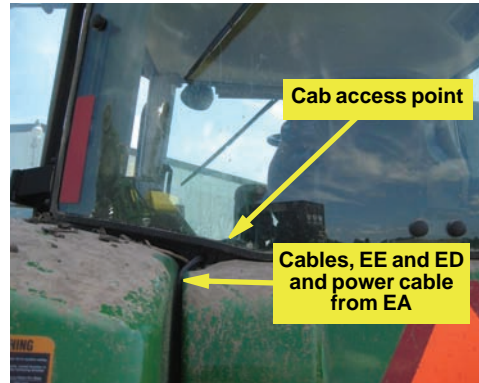

Figure 2b: Cables out from cab
- c. Connect cables **EE** and **ED** to their respective connectors on controller cable **EC** (WAS and PVE). Route the cables, with the power cable from **EA**, out the back window and down to the left side of the tractor. Route the cables along the frame with existing cables and hoses and use tie straps **ET** as required (Figure 2b).